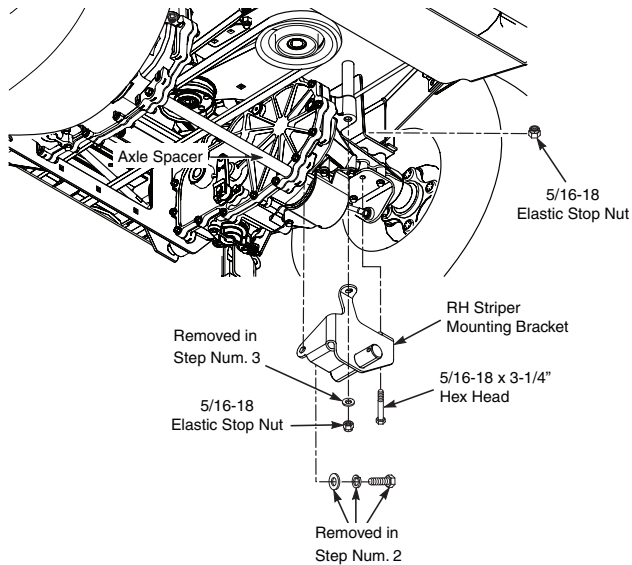

Figure 2-8. Install RH Striper Mounting Bracket
- Install the RH Striper Mounting Bracket as shown in Figure 2-8. Using the new hardware provided with the Installation Kit, secure the bracket to the machine with one (1) 5/16-18 x 3-1/4" hex head bolt, one (1) 5/16-18 x 5-1/2" hex head bolt, the 5/16" flatwasher removed in step number 3 and two (2) 5/16-18 elastic stop nuts. Do not tighten this hardware at this time.
- Secure the axle spacer to the transaxle assembly and striper mounting bracket by reinstalling the 3/8-16 x 2-1/4" hex head bolt, 3/8" lockwasher and 3/8" flatwasher that were removed in step number 2. Torque this bolt to 39 ft. lbs. See Figure 2-8.